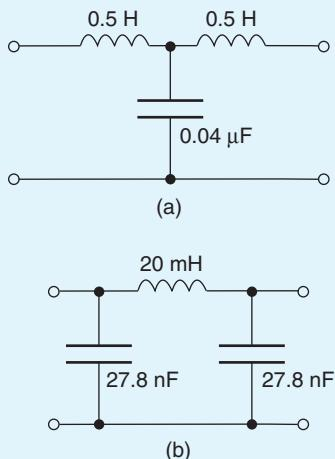

Figure 17.11
1. Determine the cut-off frequency and the nominal impedance of each of the low-pass filter sections shown in Fig. 17.11.